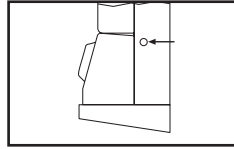

Figure 8. ac Power Jack Location Detail
1. Plug in the connector on the ac adaptor to the ac power jack on the side of the recorder as shown in Figure 8.